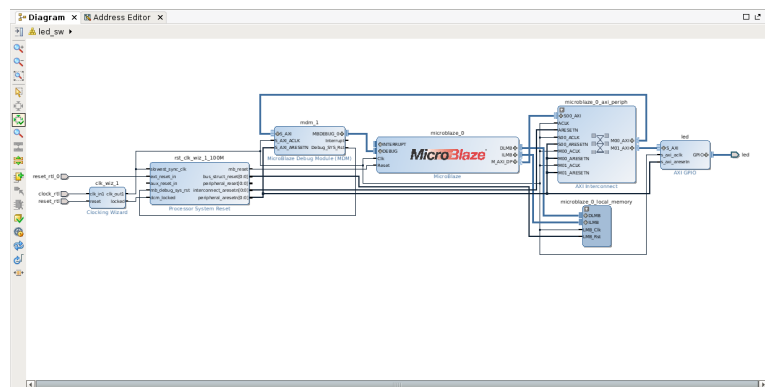

Figure 5: Layout
- (j) You are using the GPIO block to configure LEDs, so let's rename the 'AXI GPIO' block. Select the 'AXI GPIO' block and rename the block to 'led' in the 'Block Properties' panel and press 'Enter'. Repeat the same procedure for the port connected to the 'AXI GPIO' block and rename it to 'led'. The layout should look like Figure 5